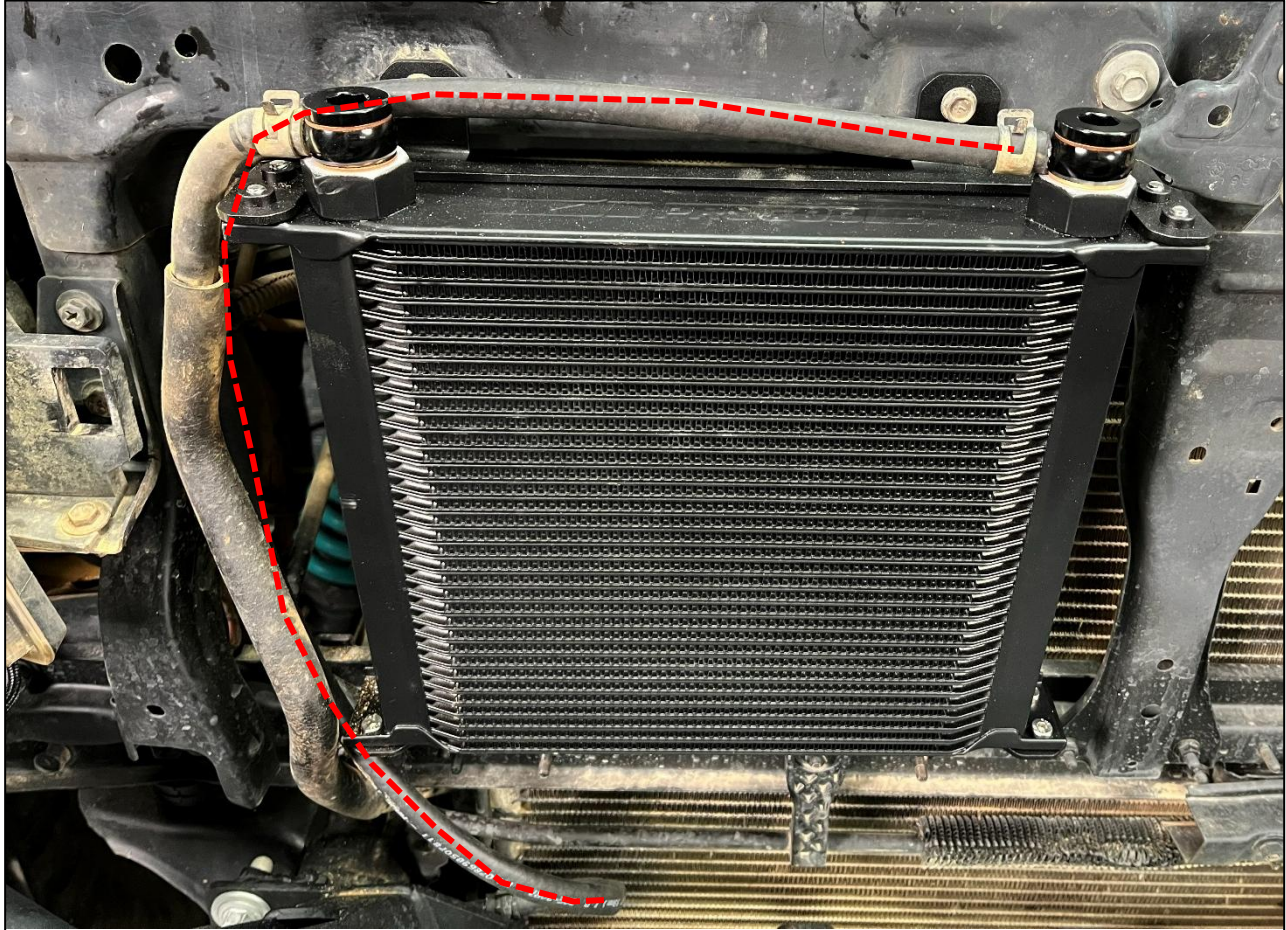

Figure 11
14. Locate the Transmission Cooler Hose. Attach one end to the barb at the bottom of the Core Support and secure with (1) one OE Hose Clamp. *Figure 11.*
15. Route the remainder of the line to the top right Banjo Fitting of the Cooler. There are multiple ways to route this line. *Figure 11.*
16. Trim the Cooler Hose as necessary and secure it to the Banjo Fitting with (1) one OE Hose Clamp. *Figure 11.*